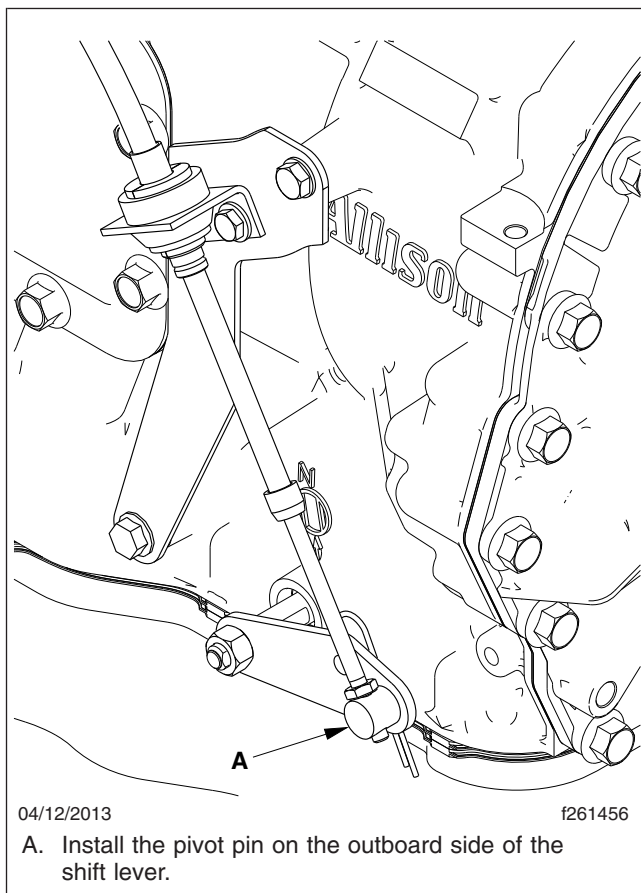

Fig. 12, Isolator Kit Installed, Kit KPP 294201
13. Install the pivot pin on the outboard side of the shift lever, as shown in Fig. 12.